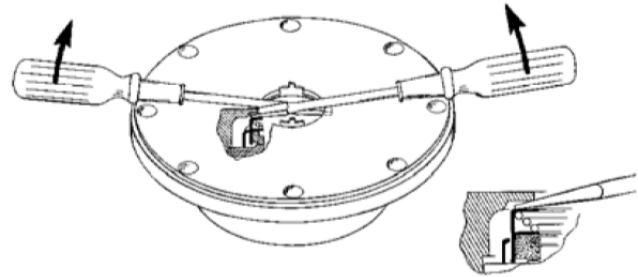

Figure 5 – Mechanical Seal Removal
8. Remove the head capscrews (21). Gently pry the head away from the cylinder.
9. Slide the head off the shaft. The head O-ring (72), bearing (24), and mechanical seal (153) will come off with the head assembly. Remove and discard the head O-ring.
- a. Pull the bearing (24) from the housing in the head.
- b. To remove the mechanical seal, use two screw drivers against the backside of the seal jacket to gently push the seal from the head (see Figure 5). Use care when placing the screw drivers to prevent damage to the seal faces. Remove and discard the seal O-rings.